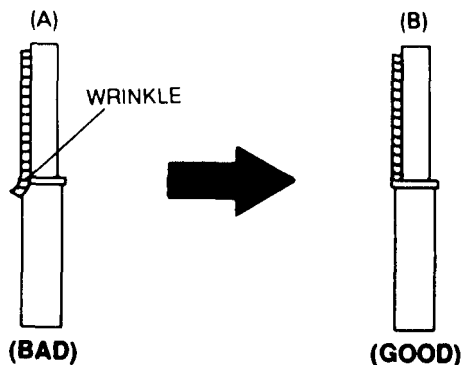

Fig. 6 Tape Guide Check
2. Confirm that there is no curl or wrinkle at the lower flange of the tape guide, as shown in Fig. 6 (B).
3. If a curls or wrinkle of the tape has occurred, slightly turn the screw (C) tilt adjust on the A/C head ass'y clockwise until it disappears, as shown in Fig. 6 (B)